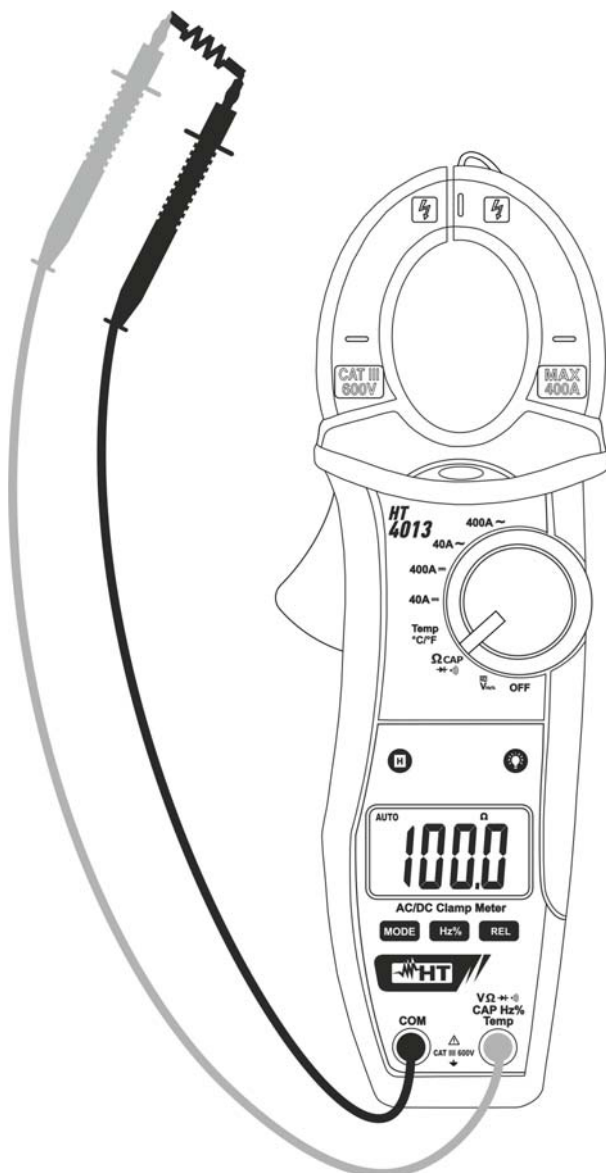

Fig. 6: Use of the clamp for Resistance measurement
3. Position the test leads in the desired points of the circuit to be measured (see Fig. 6). The display shows the value of resistance.